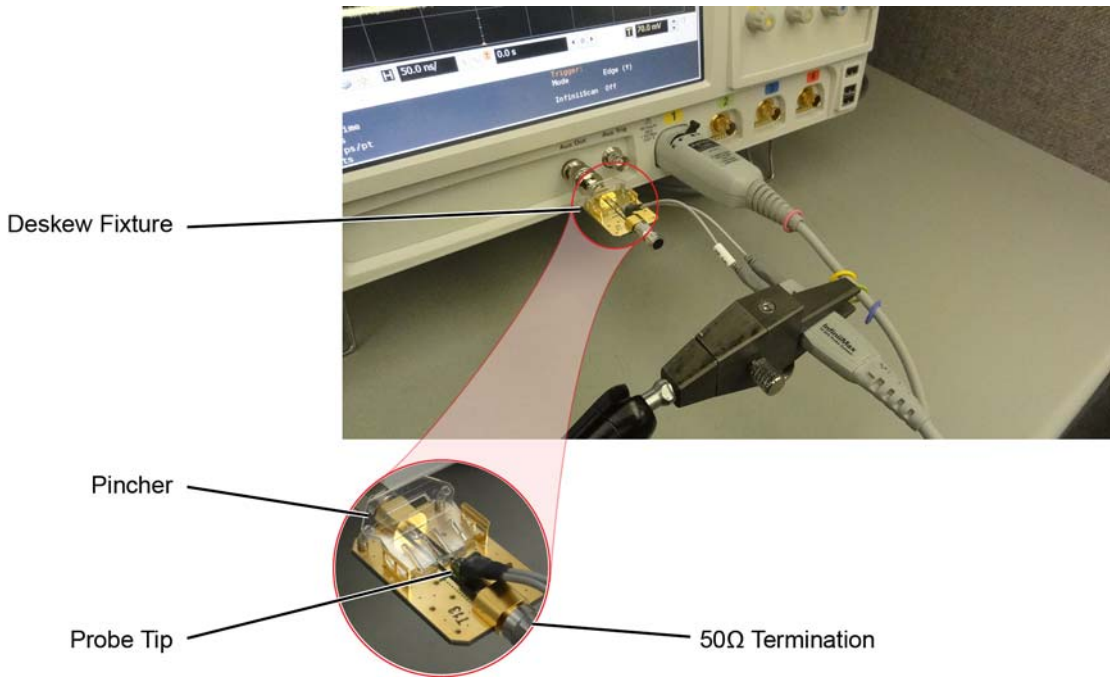

Figure 66 Connecting the Probe and Deskew Fixture
- 1 As shown in Figure 66 on page 94, connect BNC (male) to SMA (male) adaptor to the deskew fixture on the connector closest to the yellow pincher.
For the following procedure, refer to Figure 66 on page 94.